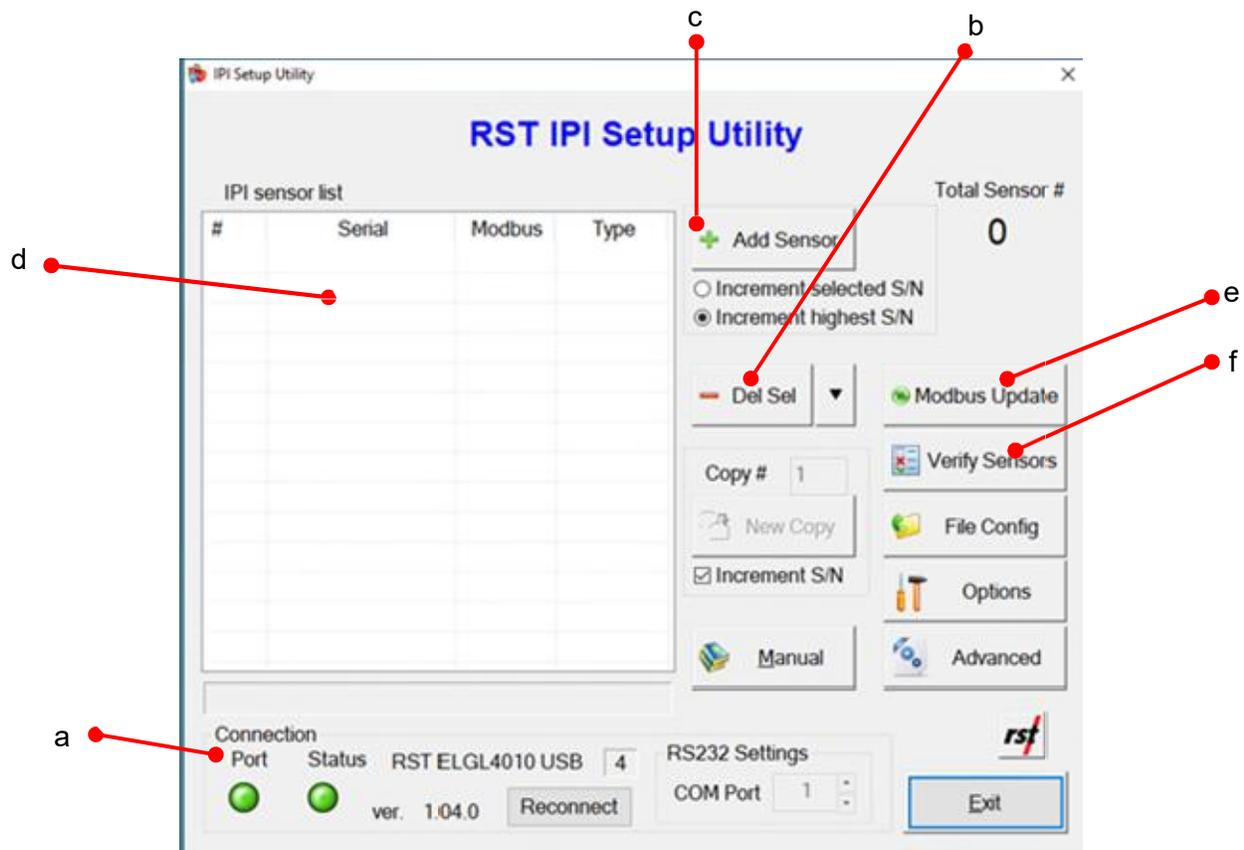

FIGURE 3-2 RST IPI UTILITY MAIN WINDOW
1. Ensure that the Port and Status indicators are green (Figure 3-2, a).
2. Ensure the IPI sensor list is blank by removing existing entries using *Del Sel* (Figure 3-2, b) or *Remove All* (*Remove All* can be found on the pull-down menu next to *Del Sel*).
3. Select *Add Sensor* (Figure 3-2, c) to enter the serial number of the first (i.e., topmost) IPI in the string.
4. Click on the *Serial* column (Figure 3-2, d) and enter the unit's serial number.
6. When all sensors are listed, click *Modbus Update* (Figure 3-2, e) to update the Modbus address of each sensor. Unless the DT Bus Options are changed (see Section 3.4 for details), the top-most sensor in the string will be assigned a Modbus address of 1 and subsequent sensors assigned sequential Modbus addresses according to how they were
7. Click *Verify Sensors* (Figure 3-2, f) to ensure that the utility can communicate with and read the Modbus address from every sensor in the string. Verified sensors entries will be highlighted, as described in Step 6.